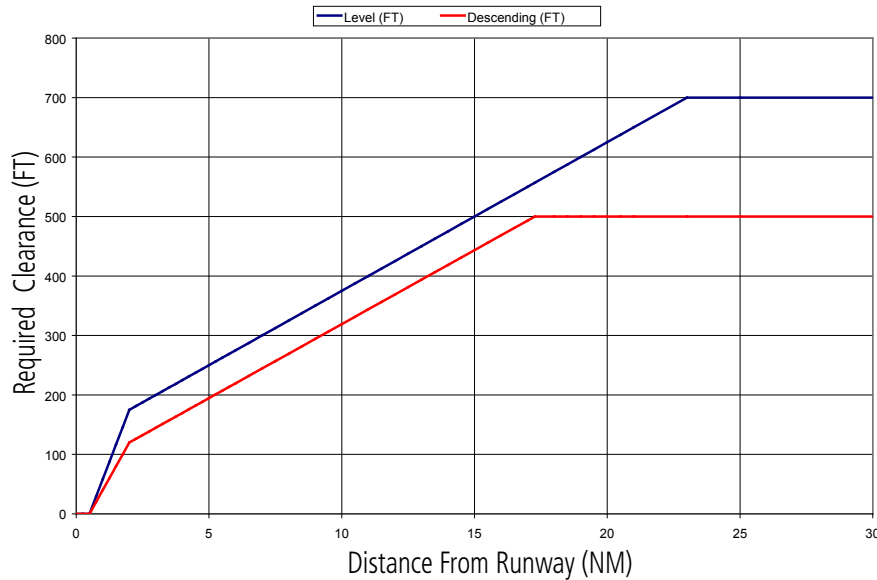

Figure 6-81 FLTA Alert Minimum Terrain and Obstacle Clearance Values
**Reduced Required Terrain Clearance (RTC)** and **Reduced Required Obstacle Clearance (ROC)** alerts are issued when the aircraft flight path is above terrain, yet is projected to come within the minimum clearance values in Figure 6-81. When an RTC alert is issued, a potential impact point is displayed on the Terrain-SVS Page.
**Imminent Terrain Impact (ITI)** and **Imminent Obstacle Impact (IOI)** alerts are issued when the aircraft is below the elevation of a terrain or obstacle cell in the aircraft's projected path. ITI and IOI alerts are accompanied by a potential impact point displayed on the Terrain-SVS Page. The alert is annunciated when the projected vertical flight path is calculated to come within minimum clearance altitudes in Figure 6-81.